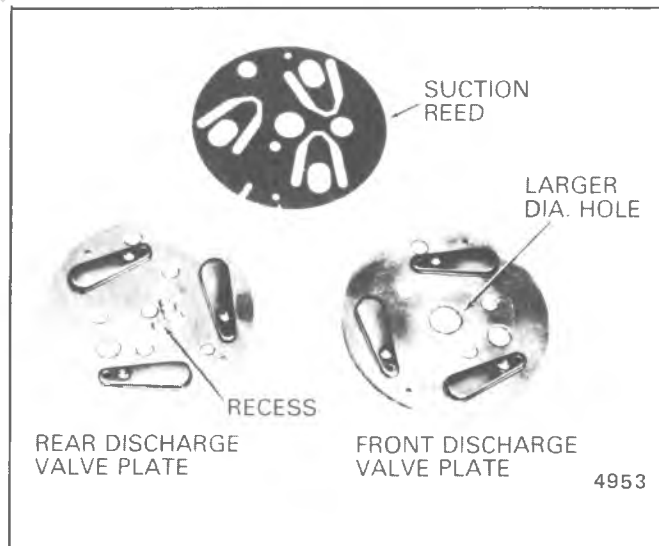

Figure 1D-65 Front and Rear A-6 Discharge Valve Plates
15. Now install new O-ring and bushing on rear-end of discharge cross-over tube (See Figure 1D-58).